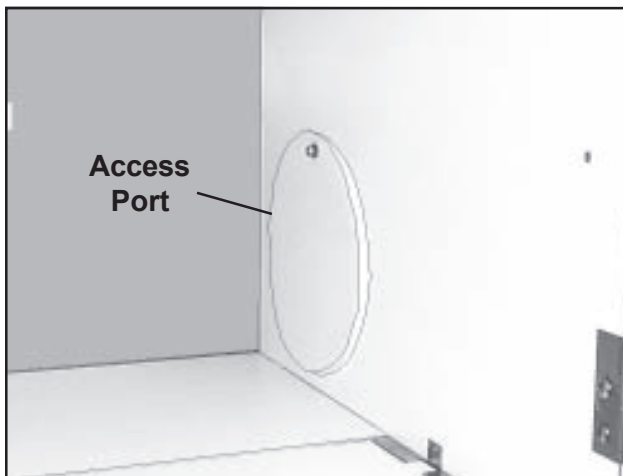

Figure 34. Horizontal Access Port Closed
2. Rotate the circular access port to the open or closed position, as desired (Figures 34 and 35). When opening the port, make sure it comes to rest leaning on the cage rear wall.